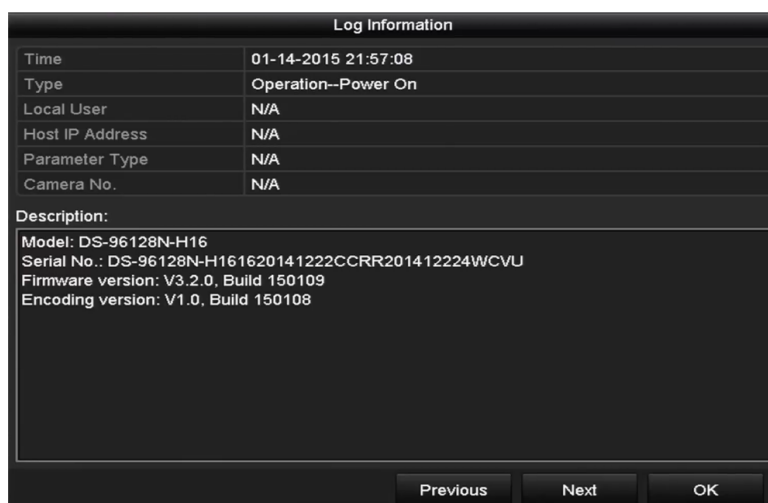

Figure 15-4 Log Details
Step 5 You can click the  button of each log or double click it to view its detailed information, as shown in Figure 15-4. And you can also click the  button to view the related video files if available.
Step 6 If you want to export the log files, click the **Export** button to enter the Export menu, as shown in Figure 15-4 Log Details.